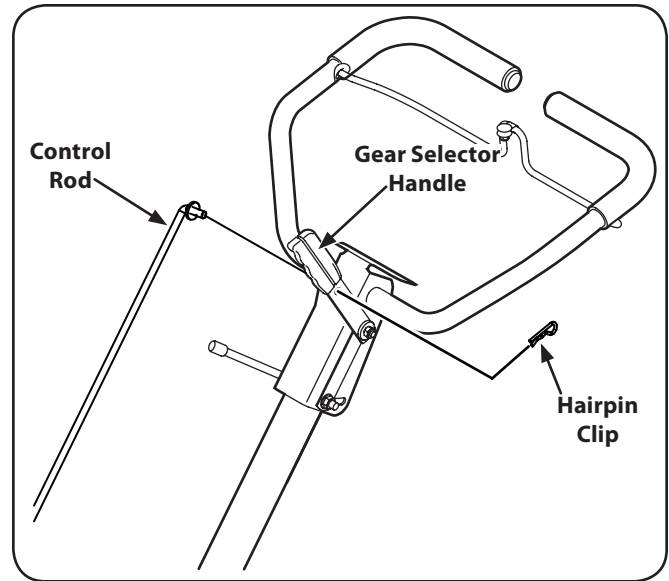

Figure 3-6
- Insert the longer end of the control rod through the hole in the gear selector handle and secure with the hairpin clip. See Fig. 3-6.